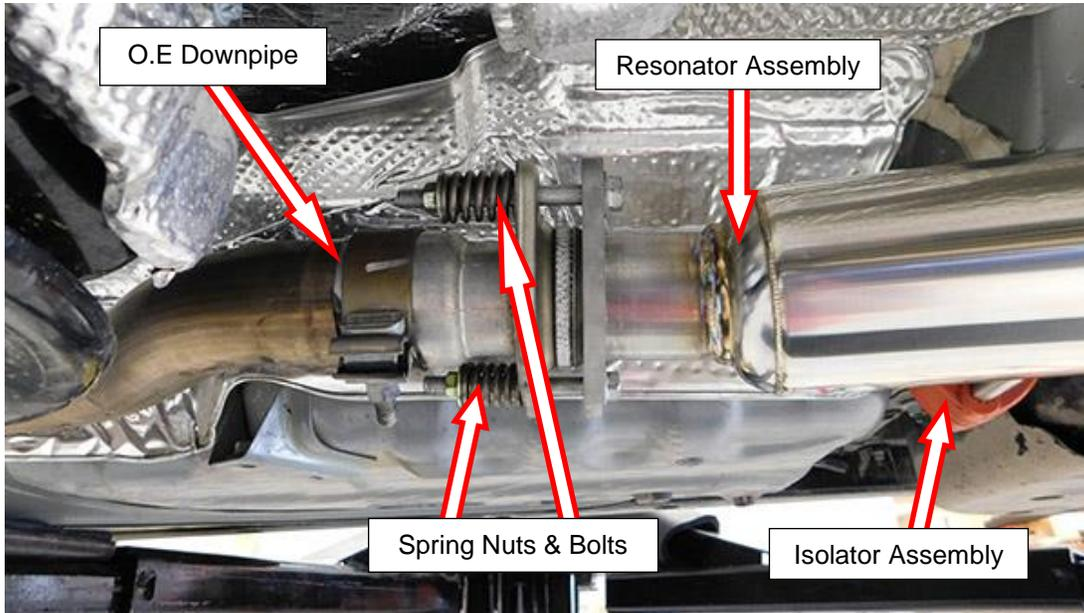

Figure 3
1. Install the Blackheart left and right resonator hanger rod into the resonator isolator. Install the provided M10 x 90mm flange bolt into the resonator flanges and through the O.E flanges on the down pipes. Install the spring nuts and tighten the nut until it bottoms on the shoulder of the bolt (**Figure 3**). Do not over tighten the nut as damage to the threads will result.